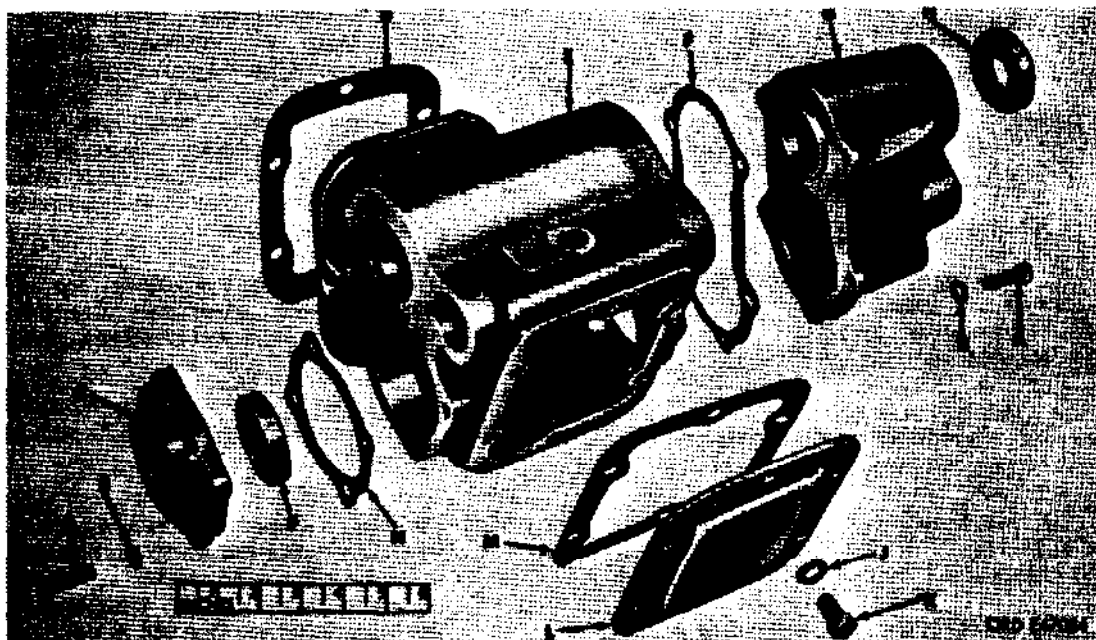

Figure 294. Power takeoff case - exploded view
- (a) Place high-speed gear (R) on front output shaft (T) with spiral end of gear toward front of case (E, fig. 294). Place high-speed gear thrust washer (Q) on front output shaft next to high-speed gear and install high-speed gear snap ring (P) to hold thrust washer and gear on shaft.
- (b) Install front output-shaft-front ball bearing (N) on front output shaft (T) end insert splined end of shaft into front end of case. Place front output shaft sliding gear (U) on shaft inside case with fork groove side toward rear of case. Continue inserting shaft,